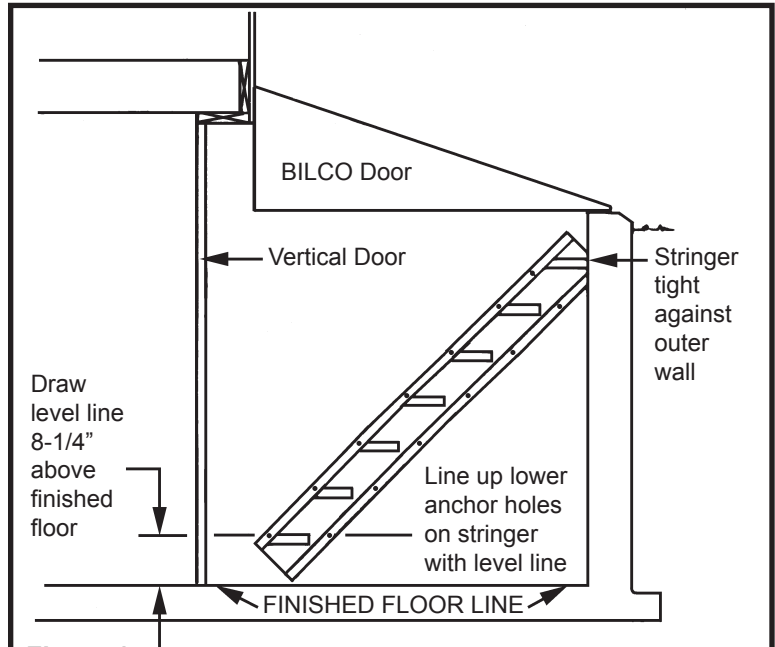

Figure 1
Measure up from the finished basement floor line and draw a level line on the wall as shown in **Figure 1**. Place one stringer up against the wall and line up the lower anchor holes on the stringer to the level line on the wall. Make sure that the top of the stringer is up tight against the outer wall, The stringer is now in position to be anchored. Anchor stringer to wall through the anchor holes in the stringer using the 1-1/4" long masonry nails supplied. Use (6) masonry nails for each stringer.